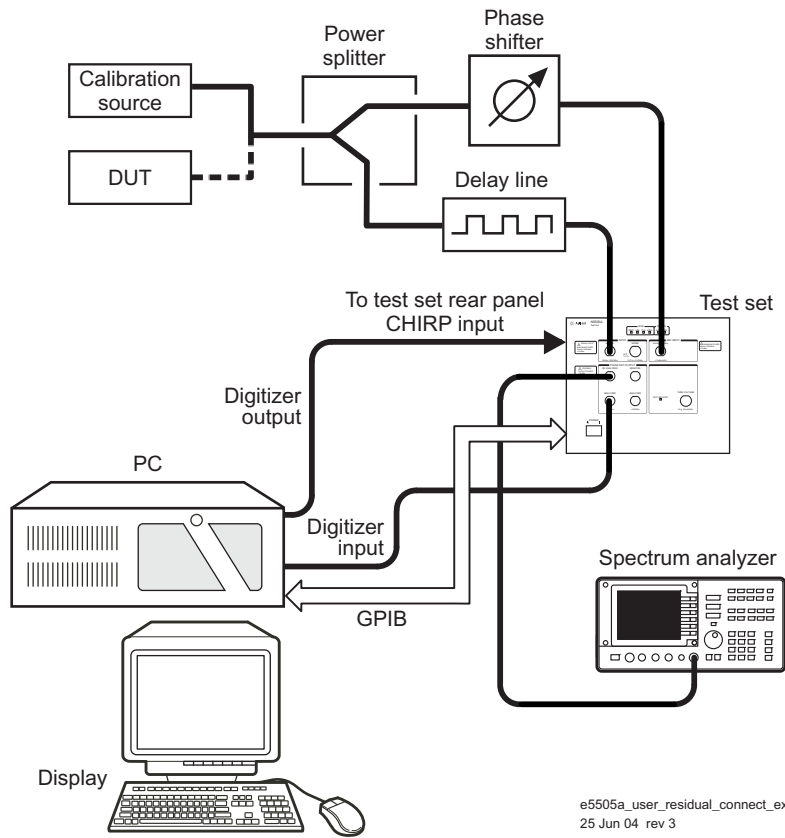
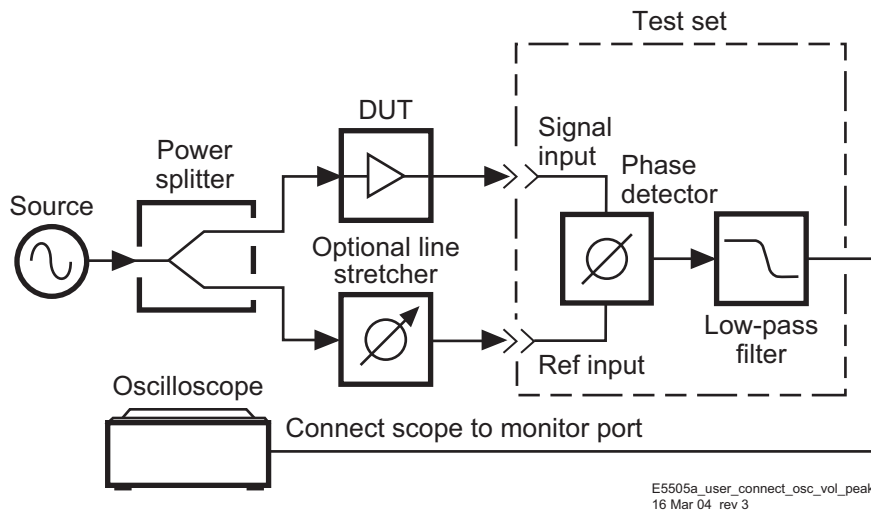

Figure 173 Residual connect diagram example
Figure 174 Connection to optional oscilloscope for determining voltage peaks
- 1 Using Figure 173 and Figure 174 on page 246 as guides, connect the circuit and tighten all connections.
Connecting an oscilloscope to the monitor port is recommended because the signal can then be viewed to give visual confidence in the signal being measured. See Figure 173 and Figure 174 on page 246.